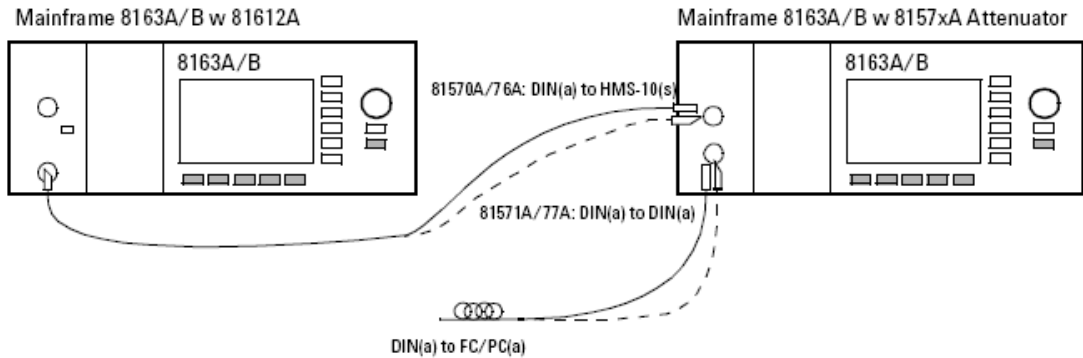

Figure 12 Return Loss Test Setup for SM attenuators
- 11 Remove the reference cable and reconnect the equipment as shown in Figure 12.